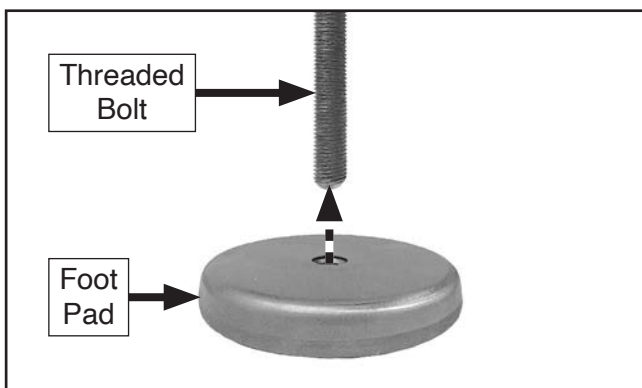

Figure 26. Installing foot pad on threaded bolt (mounting leg removed for clarity).
8. Install (6) foot pads onto (6) threaded bolts in machine mounting legs (see **Figure 26**).